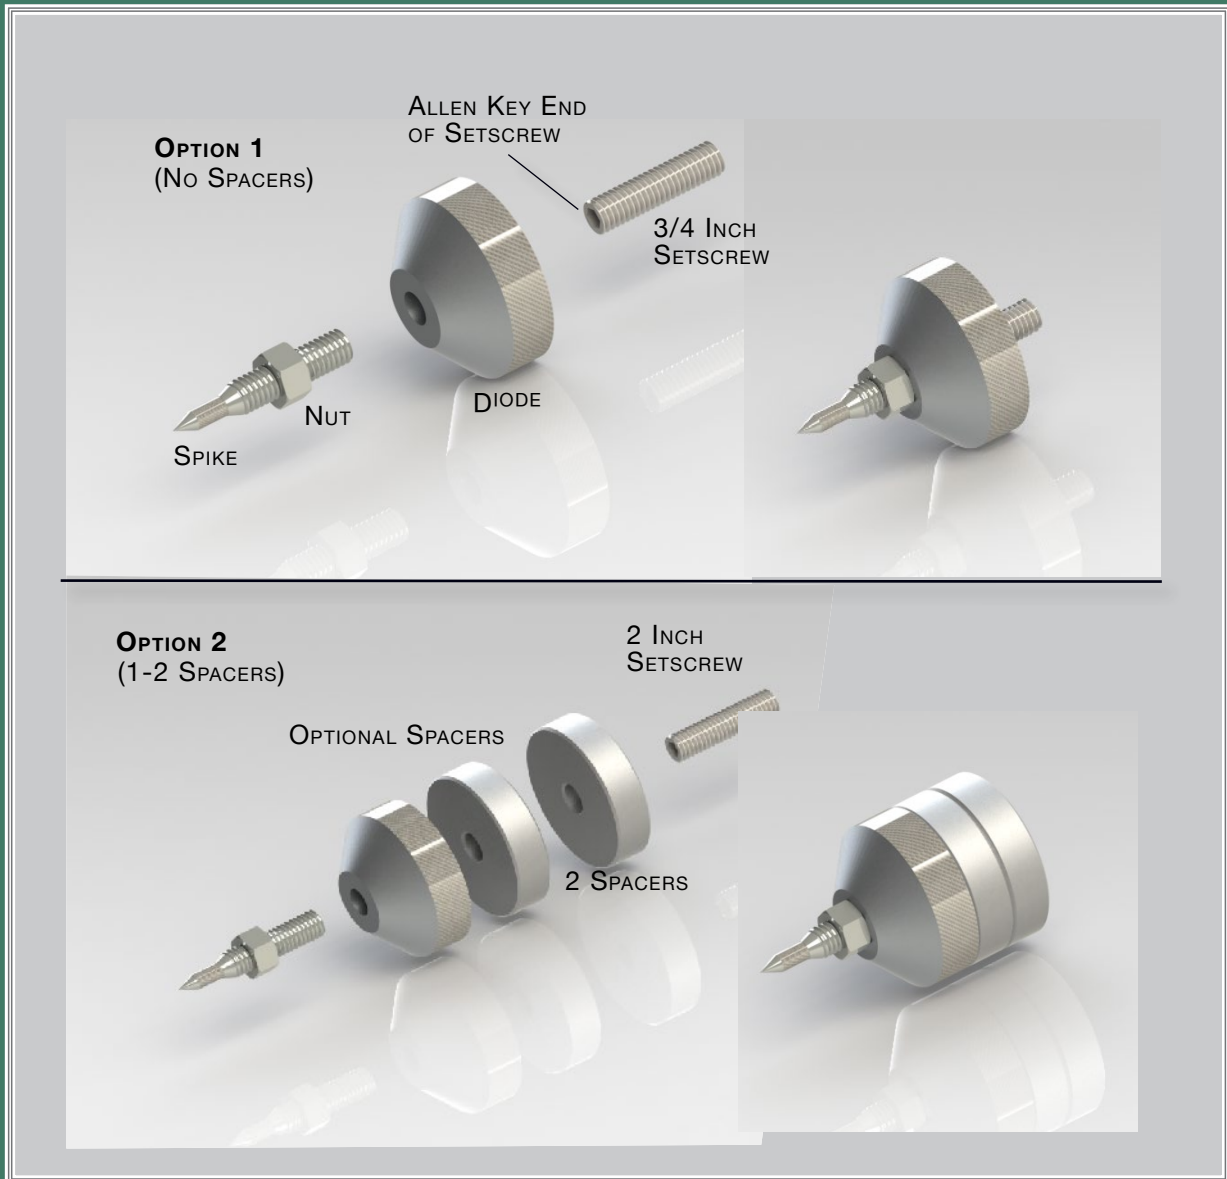

FIGURE 5 – MEZZO CONVERGENT SYNERGY SPIKES ASSEMBLY DIAGRAM
2. Assemble the front spikes with the listed diode/spacer combination in Table 1 (see also Figure 5).